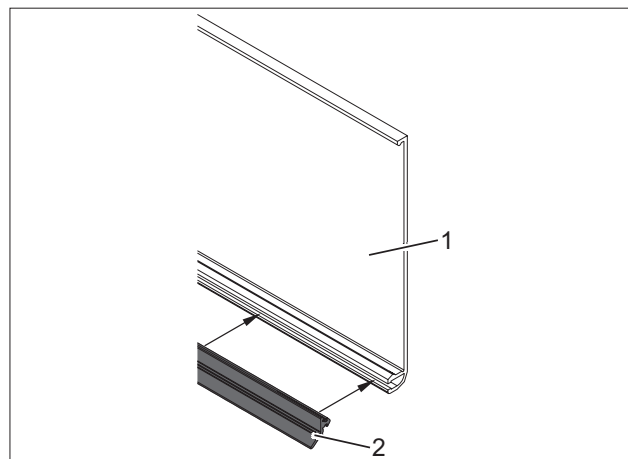

Fig. 32 Installing the rubber seal
3. Install (Fig. 32/2) the rubber seal into the cover profile (Fig. 32/1) throughout the entire length.